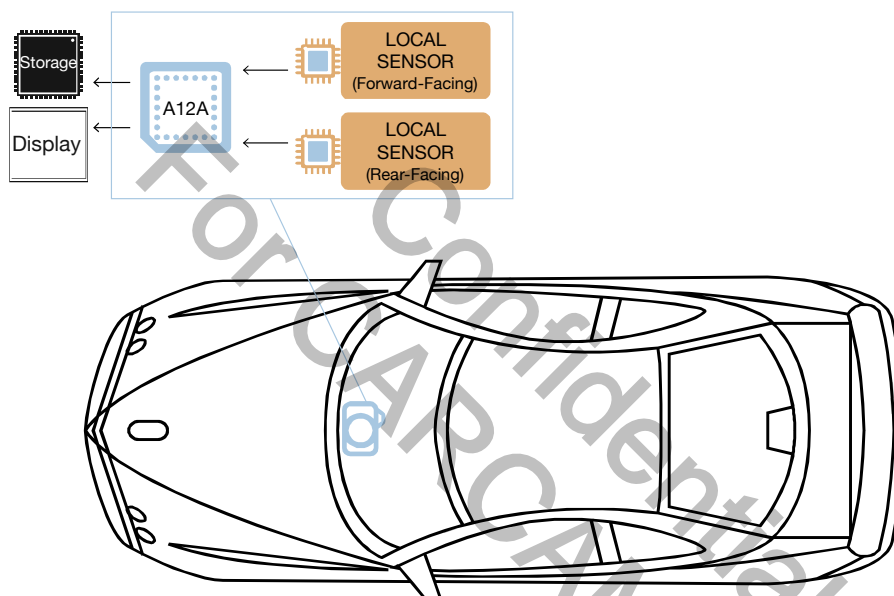

Figure 1-2. A12A75 Automotive Video Camera Application: Two-Channel Standalone with Two Local Sensors.
- Two local sensors generate two distinct inputs to the A12A75 SoC (Figure 1-2)